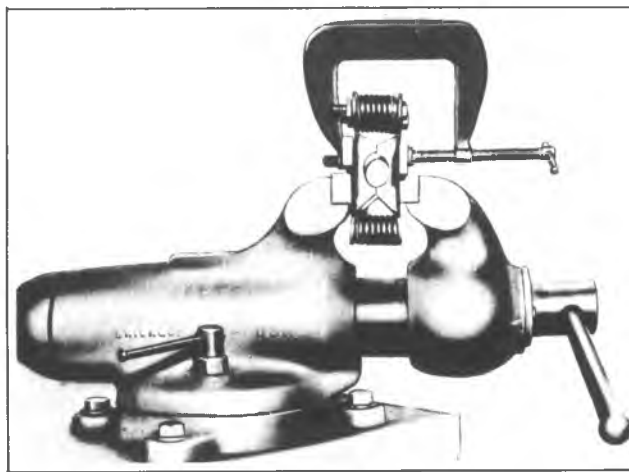

Fig. 6D—Removing Preload Springs from Pack
5. Position spring pack in vise and remove 1/4 inch bolts. Alternately relieve "C" clamp pressure and vise pressure until spring compression is relieved. See figure 6D.